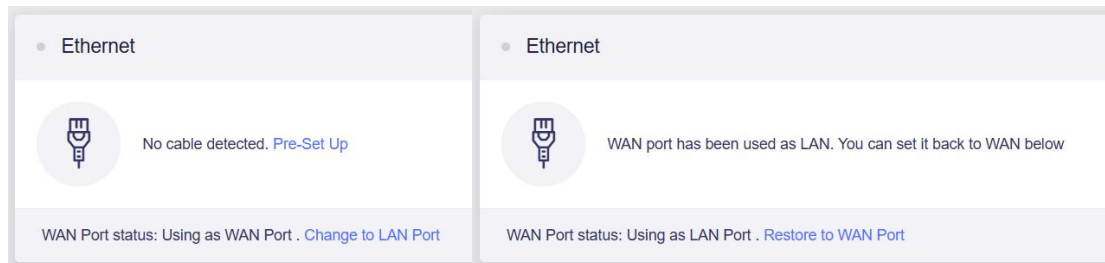

Figure 4-4 WAN Port (Left, Wrong) and LAN Port (Right, Correct)
2. Log in to the router's admin page and navigate to Internet > Ethernet. Check the WAN port status and confirm it is set to "Using as a LAN port", as shown in Figure 4-4 (right). For the method to log in to the router's admin interface, refer to
3. **Check LAN Port Status:** Reconnect the handle, log in to the router admin page > Wireless settings. Check Ethernet status and confirm it is set to "Using as LAN Port." See Figure 4-4 WAN Port and LAN Port.